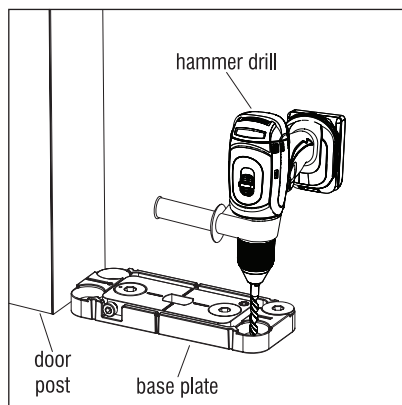

Figure 5
6. With the base plate held in place by one screw, and in position, begin drilling the rest of the holes. The base plate being installed with one screw, keeps the drill from wandering on the floor surface (Figure 5).